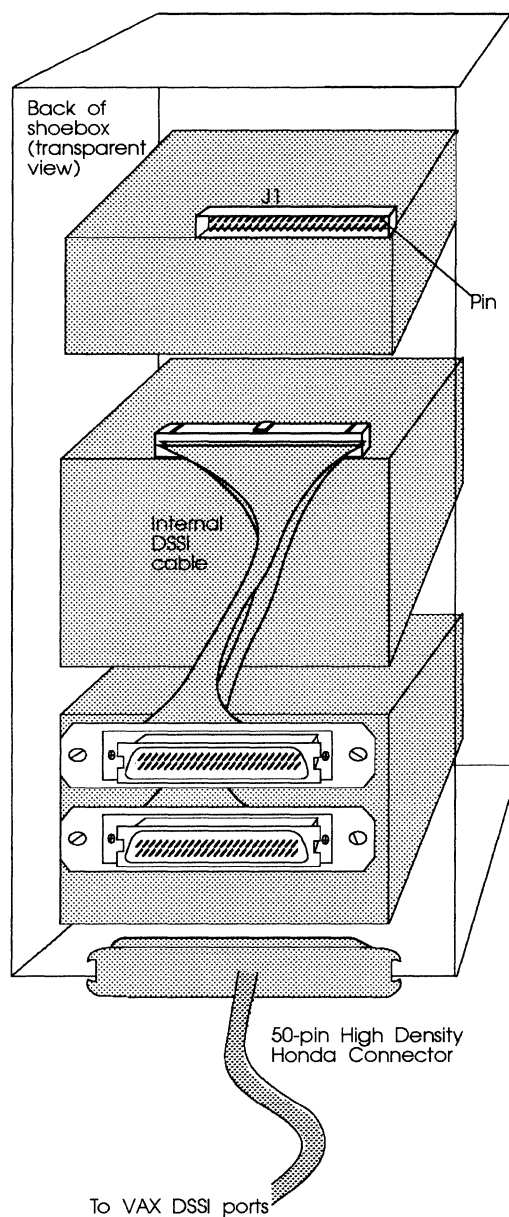

Figure 7-3: DSSI ports for shoebox
- 10 Connect an external DSSI cable to one of the DSSI connectors on the DSSI bracket as shown in Figure 7-3.